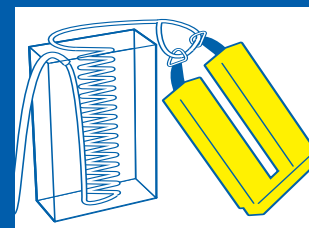

Fig. 20
- i. Do not make the mistake of starting at the Lifesling end when faking the line into the storage case. (Fig. 20)